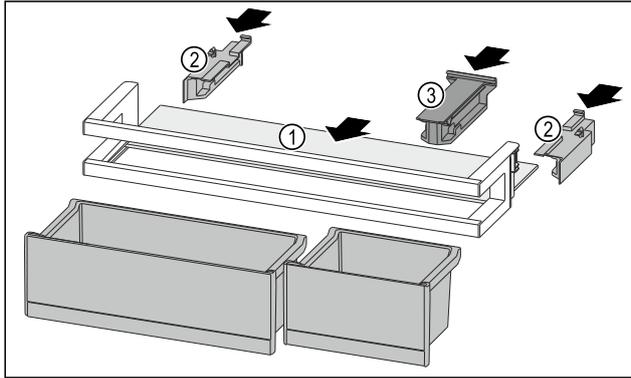

Fig. 142
- ▶ Push the shelf Fig. 142 (1) into the side recesses.
- ▶ Insert the side parts Fig. 142 (2).
- ▶ Insert the holding part Fig. 142 (3).